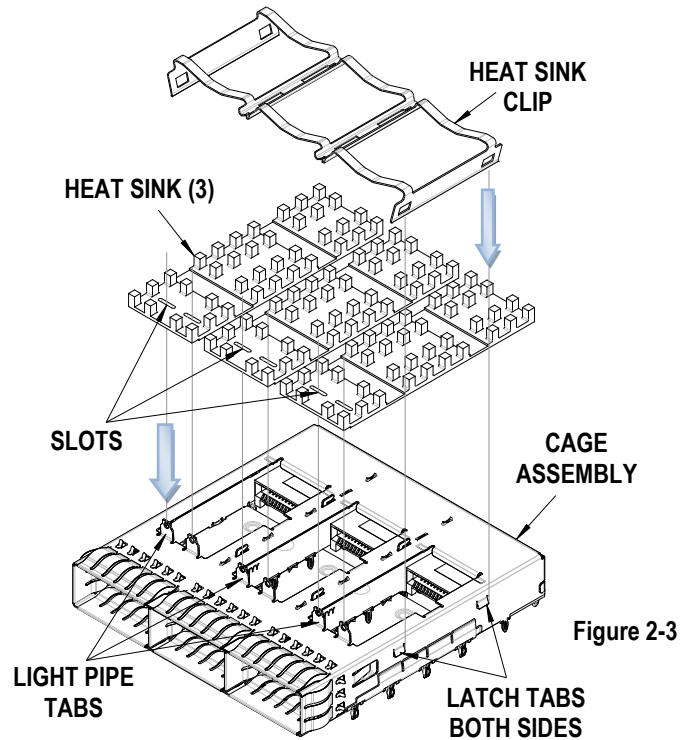

Figure 2-3
3. Push Heat Sink Clip underneath the hooking tabs. Heat sink clip must snap securely onto all latch tabs on both sides of the cage. See Figure 2-3, 1 X 3 Cage Assembly shown.